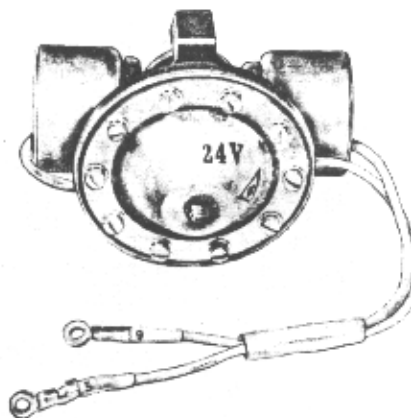

Figure 10—Fuel Control Valve
1. The fuel control valve (Figure 10) consists of a valve body, pressure regulator, two solenoid-operated valves and an orifice or metering plate. Its purpose is to control and meter the quantity of fuel flowing into the heat exchanger. For a more complete description see Section IV, OPERATION.